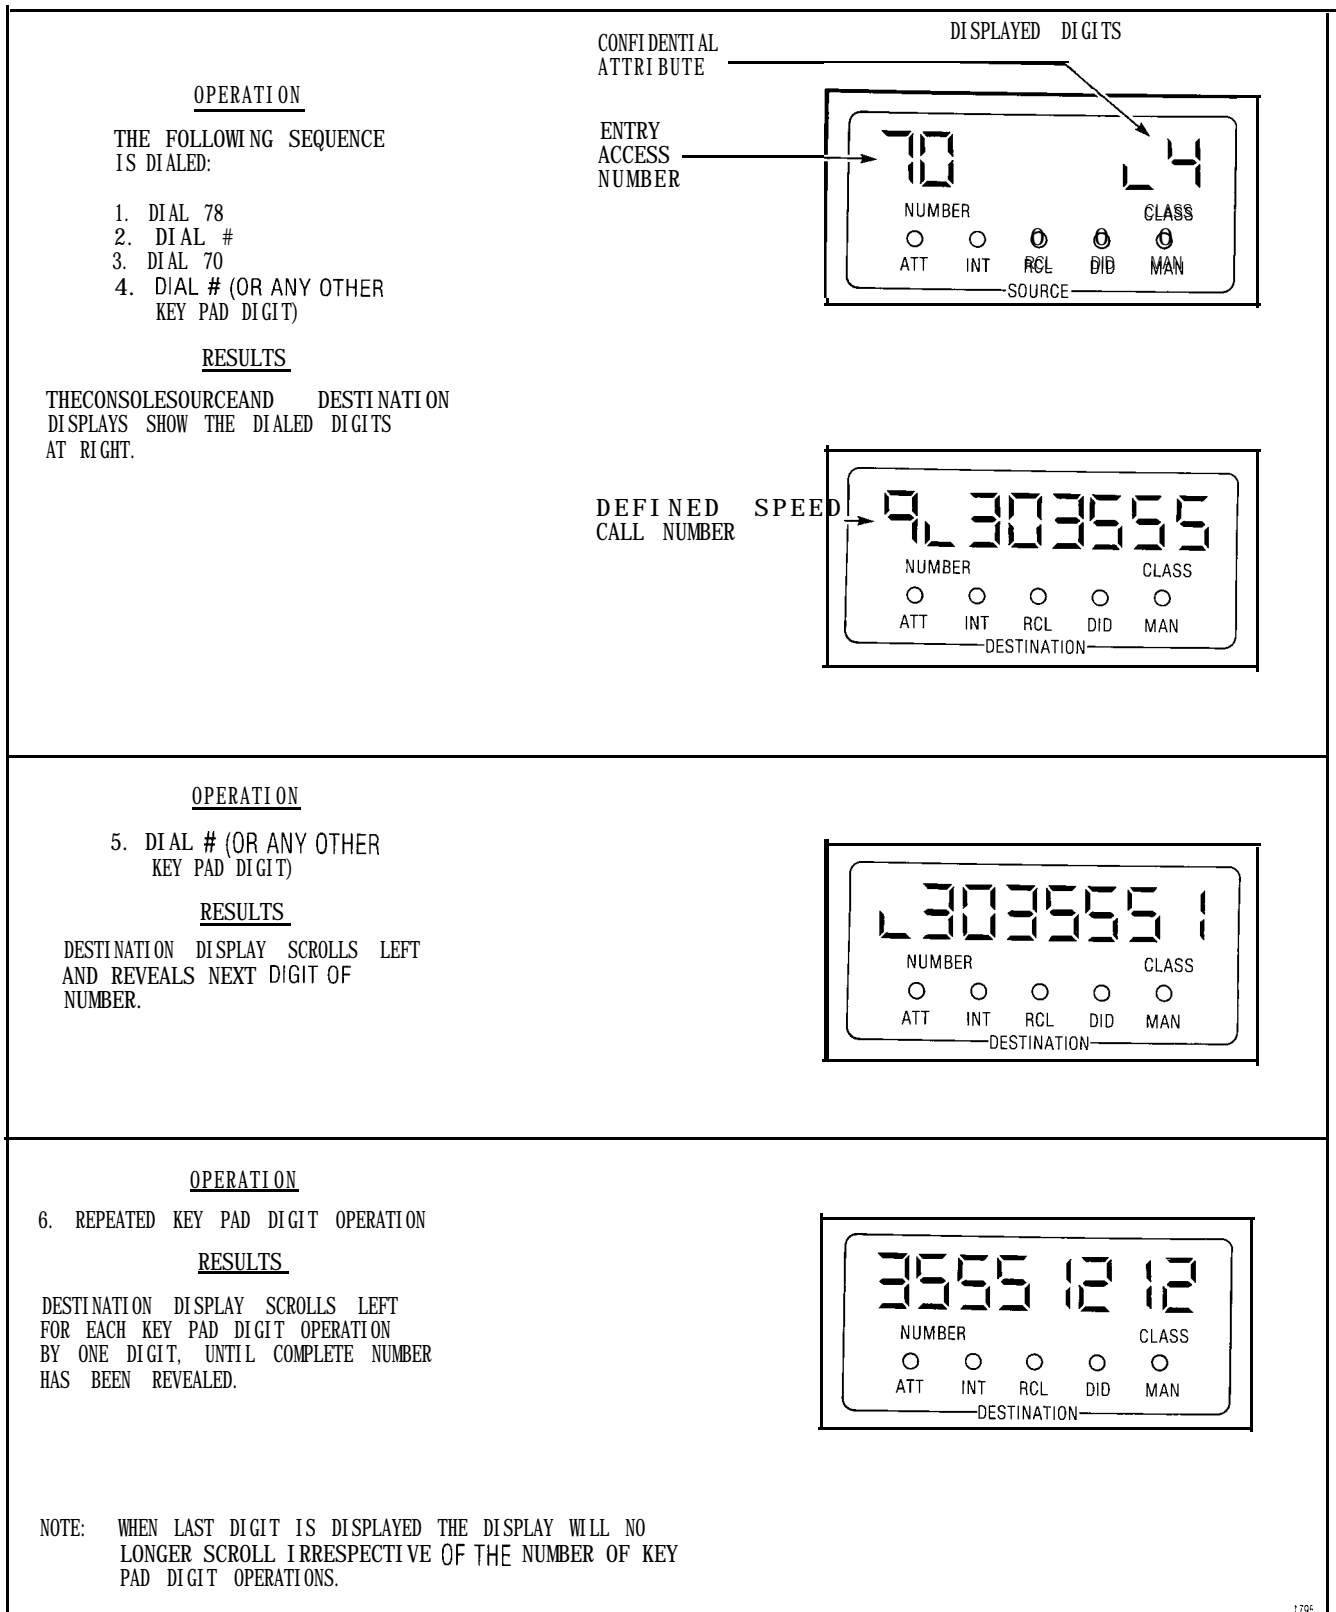

Fig. 5-1 Speed Call Number Display Example
5.04 The display procedure shown in Fig. 5-1 applies to a table which has a speed call access number 70, and a speed call number defined as 9*3035551212. The Speed Call access code has been programmed as 78 in the example. The console RELEASE key is pressed to clear the display.